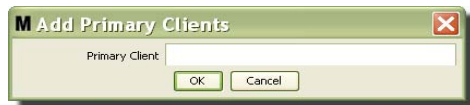

FIG. 95
- In the Add Primary Clients box shown in FIG. 95 enter the name of the Primary Client you are adding. Click OK to close the screen and save the changes. The Primary Client's name can be anything, as long as it's unique in the system and the same name is set in the client PC's local configuration (using Matrix Properties File Editor, page 173, or the Matrix client name property). Its often convenient to use network host names, since the host name will be unique and is generally an easily remembered and typed name, but its not required.